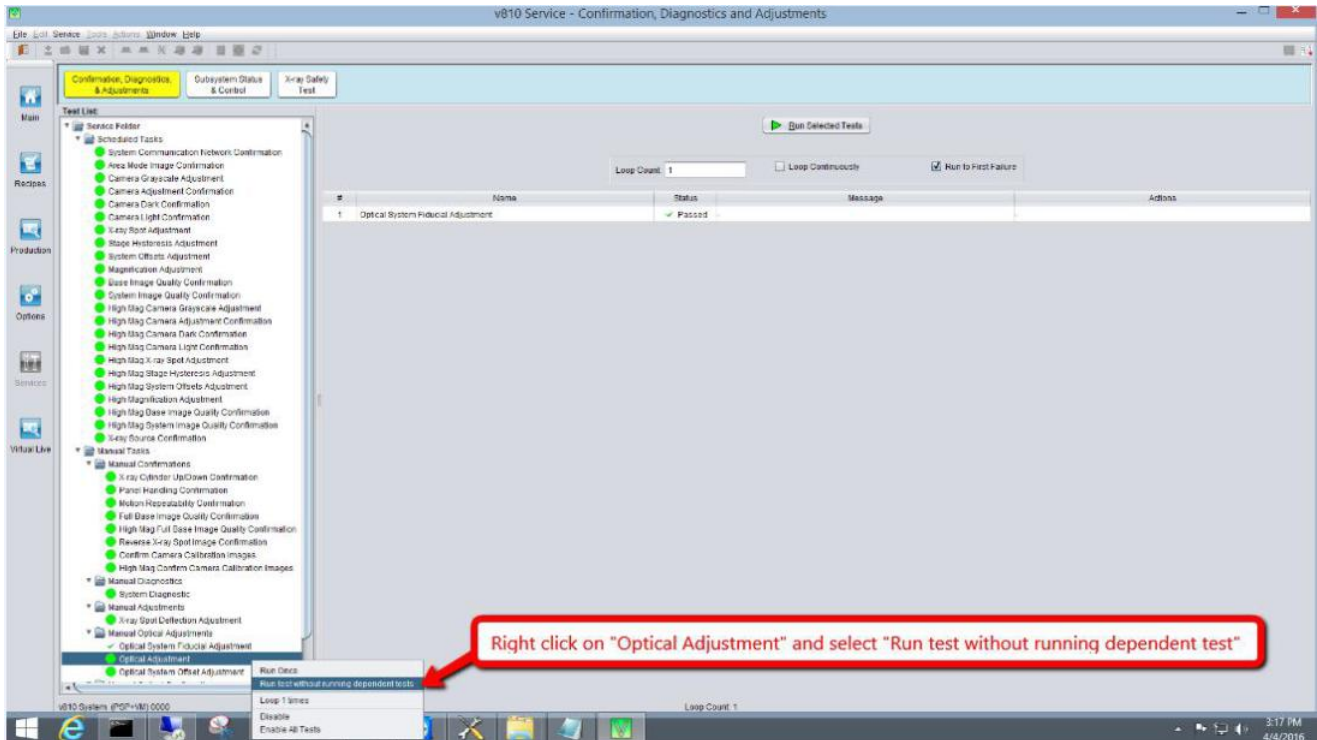

Figure 13 Optical Adjustment
14. At **Confirmation, Diagnostics and Adjustment (CD&A)** , under the **Manual Optical Adjustments**, right click **Optical Adjustment** and select **Run test without dependent tests** as shown in the Figure 13.